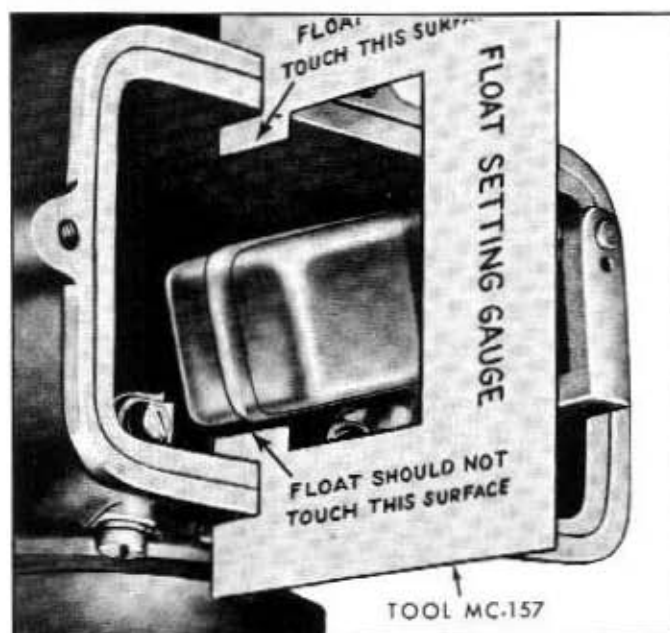

Fig. 9C-15—Float Setting—Bench Check Only—(9E-7108)
24. Invert the main body assembly, and check the setting of the float with the gauge (MC-157) provided in the repair kit. See figure 9C-15. If necessary, bend the tab on the float arm to bring the float setting within limits. This should provide the proper fuel level.